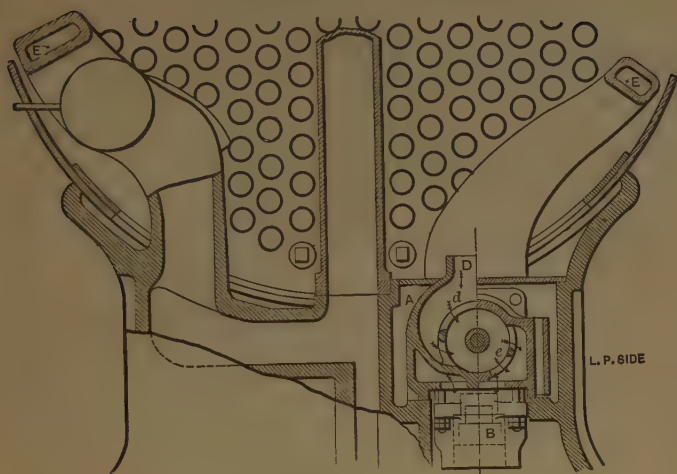
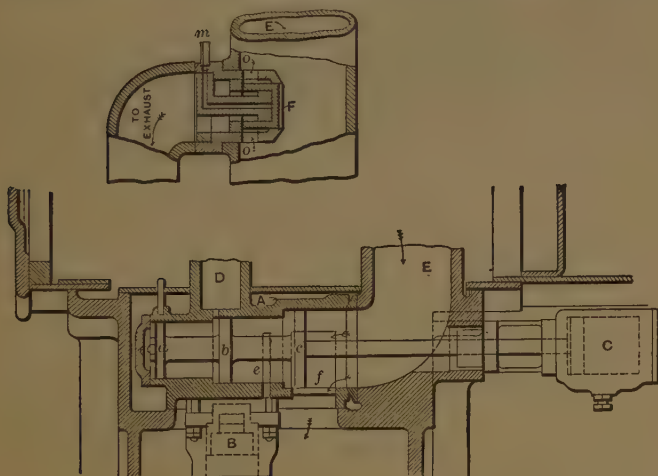
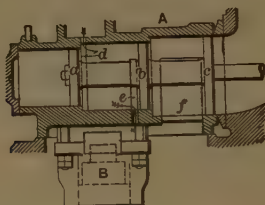

Fig. 158. Front Section of Rhode Island Locomotive Works' Intercepting Valve at Ports *d* and *e*; also Front View of Portion of Receiver with Exhaust Valve.
Fig. 159. Side Section of Rhode Island Locomotive Works' Intercepting Valve, Running Compound.
Fig. 160. Side Section Rhode Island Locomotive Works' Intercepting Valve, Running Non-Compound.
A. As shown in figure 158, which gives a front section of the intercepting-valve at the ports *d* and *e*, and also a front view of a portion of the receiver with the exhaust-valve; in figure 159, which shows a side section of the same while running compound, and figure 160, which shows the same while running simple. The intercepting-valve being in any position as in figure 159, and the exhaust-valve closed as in the same figure, the throttle being opened, boiler steam will pass to the high-pressure cylinder in the usual manner, and also through the
pipe *D* into the intercepting-valve *A*, causing the piston to move into the position shown in figure 160. In this position the receiver is closed to the low-pressure cylinder by the piston *C*, and steam from *D* passes through the ports *d* and *e*, and the reducing-valve *B*, into the low-pressure steam-chest; the pressure being reduced from boiler-pressure in
the ratio of the cylinder-areas. The piston *a-b-c* is so proportioned that it will automatically change to the compound position shown in figure 159, when a predetermined pressure in the receiver *E* has been reached by the exhausts from the high-pressure cylinder. The engine thus starts with steam in both cylinders and automatically changes to compound at a desired receiver-pressure.
A. The small pipe m is from a hand-valve in the cab, connecting it to either steam or atmosphere. When desiring to run compound, m is put in connection with atmosphere; the receiver steam keeping the valve F in position as shown in figure 159. To run simple, m is connected to steam which will hold the valve F as in figure 160, the ports o opening E to the exhaust. The valve F takes either position at any time when desired by the engine-runner.
A. By opening the exhaust-valve before starting; on its closure the piston $a-b-c$ will automatically take the "compound" position of figure 159, as already described.